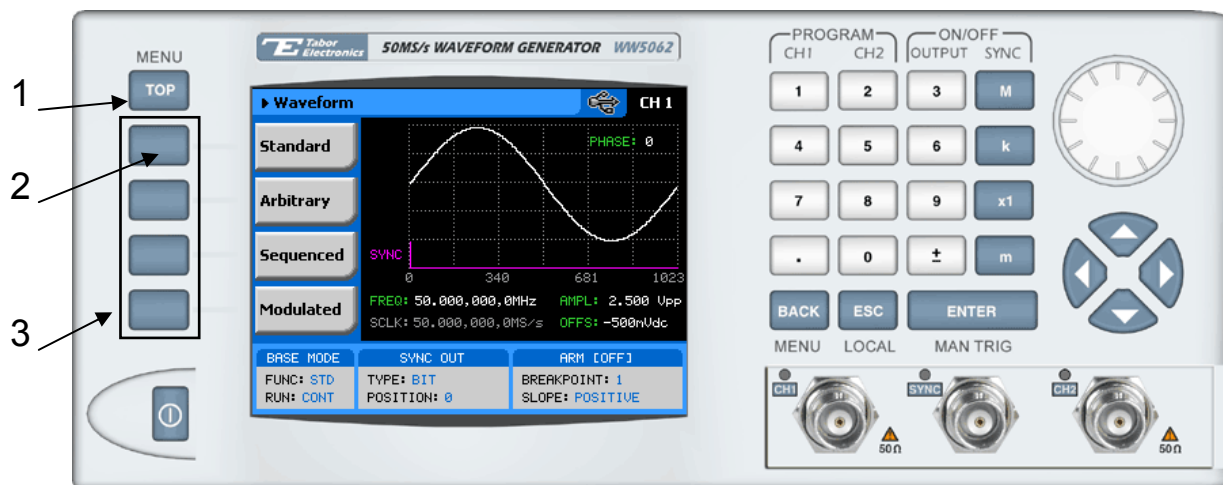

Figure 3-4, Selecting an Output Waveform Type
There are four main types of waveforms that the 5062 can produce: Standard, Arbitrary, Sequenced and Modulated waveforms. Standard and modulated waveforms are computed from equations and tables that are built into the program. The instrument can output arbitrary and sequenced waveforms only after waveform data has been downloaded into its memory. Refer to Figure 3-4 and use the following procedure to select an output type. Note that there are sub-menus associated with each output type menu. Accessing and using these sub-menus is described later in this chapter. The numbers on Figure 3-4 correspond to the procedure steps in the following description.
2. Press Waveforms, the display as shown in Figure 3-4 will open.